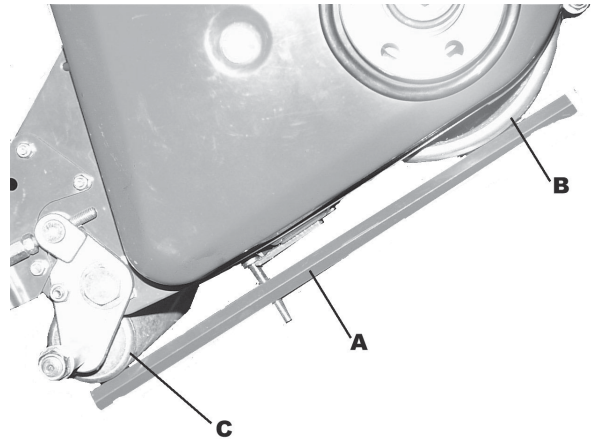

Fig. 8.1a
The height of cut bar (A Fig. 8.1a) is used to accurately set the height of cut. The bolt in (A) is positioned so that the head of the bolt is hooked over the lip of the bottom blade. The bar rests against both the front (C) and the rear (B) rolls. The measured height of cut would be from the underside of the head of the bolt to the surface of the setting bar.